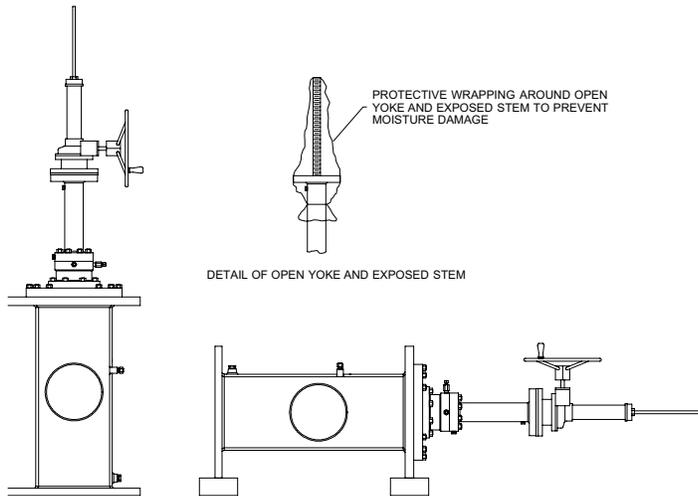

Figure 3
3.1 Standard M-303 and RQ-8 valves may be stored standing vertically on a hard surface or in a horizontal position with the bore parallel to grade (see Figure 3).